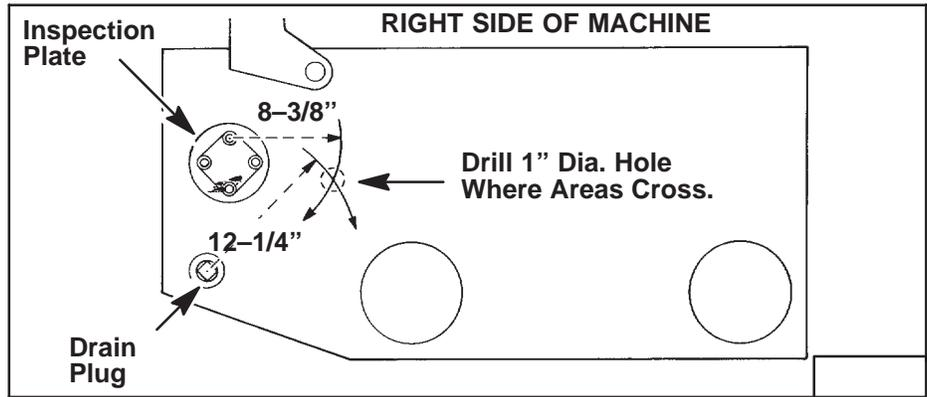

Fig. 1-21 Locating Fuel Adjustment Hole (Petter)
**NOTE:** When loader is not equipped with a hole in loader side wall at fuel adjustment screw location see Fig. 1-21 for hole drilling instructions. The hole will make fuel adjusting easier.
3. Put a screw driver into hole (Fig.1-21). Turn in to reduce fuel supply, turn out to increase fuel supply.